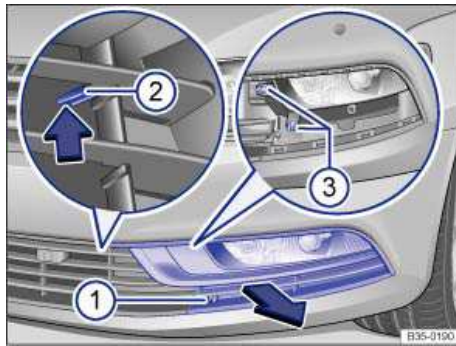

Fig. 202 In the left front bumper: Fog light.
2. Remove the screw ⇒ fig. 202 \(1\) using the screwdriver from the vehicle tool kit
| 4. | Pull the cover ⇒ fig. 202 forward out of the bumper in the direction indicated by the arrow. |
| 14. | Install the screws ⇒ fig. 202 (3) . |
| 15. | Insert the cover in the bumper opposite the direction indicated by the arrow ⇒ fig. 202 . The tab (2) must lock in place. |